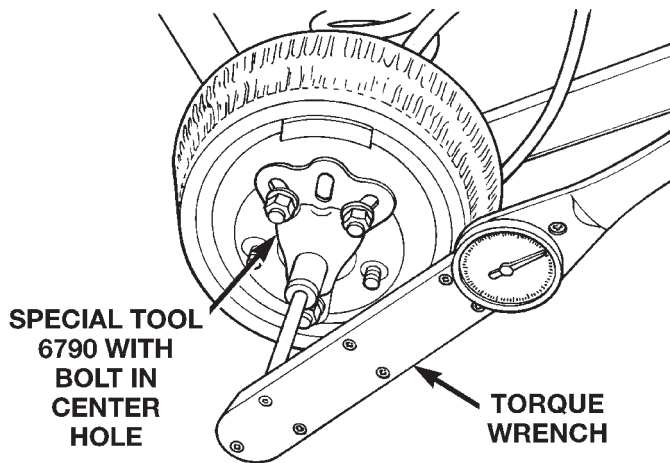

Fig. 5 Trac-lok™ Test —Typical
- (1) Place blocks in front and rear of both front wheels.
- (2) Raise one rear wheel until it is completely off the ground.
- (3) Engine off, transmission in neutral, and parking brake off.
- (4) Remove wheel and bolt Special Tool 6790 to studs.
- (5) Use torque wrench on special tool to rotate wheel and read rotating torque (Fig. 5).